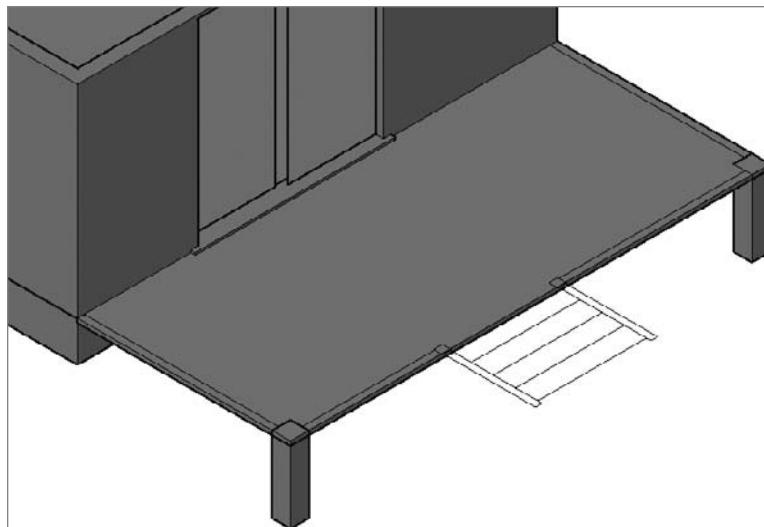

FIGURE 16.53 The beginning of the deck
2. Click the Box tool and create a box to represent floor of the deck. Use the Endpoint osnap to locate the two opposite corners of the deck, and then give the box a height of $-1\frac{5}{8}''$ (-41 mm). Your model should look like Figure 16.53.